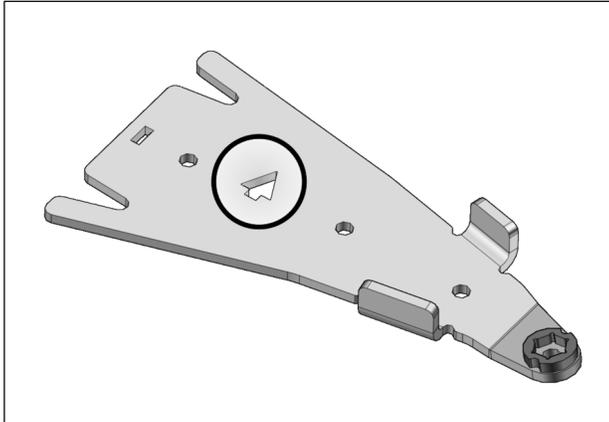

Fig. 1
1. For installation purposes, directional arrows have been cut out of some components in the anchor bracket kits. These arrows indicate the front of the vehicle relative to the component. See Fig. 1